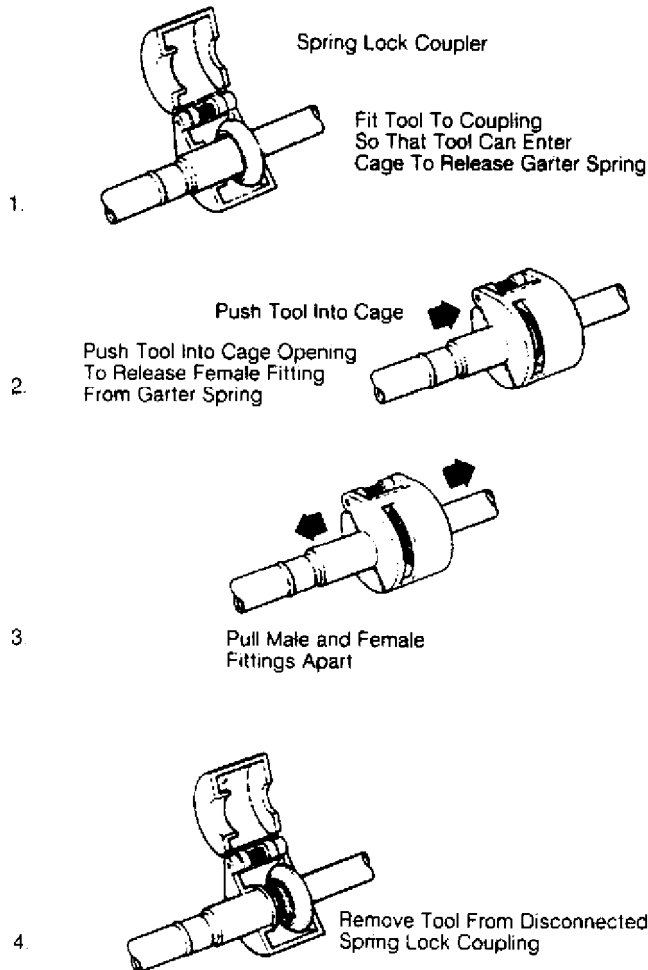

Fig. 10: Disconnecting Spring Lock Coupler (Navajo)
1) Release fuel system pressure. See FUEL SYSTEM PRESSURE RELEASE. Remove locking (safety) clip (if equipped). Place Spring Lock Coupler Releaser (49-UN01-051 for 3/8" line; 49-UN01-052 for 1/2" line) over fuel line coupler. See Fig. 10.